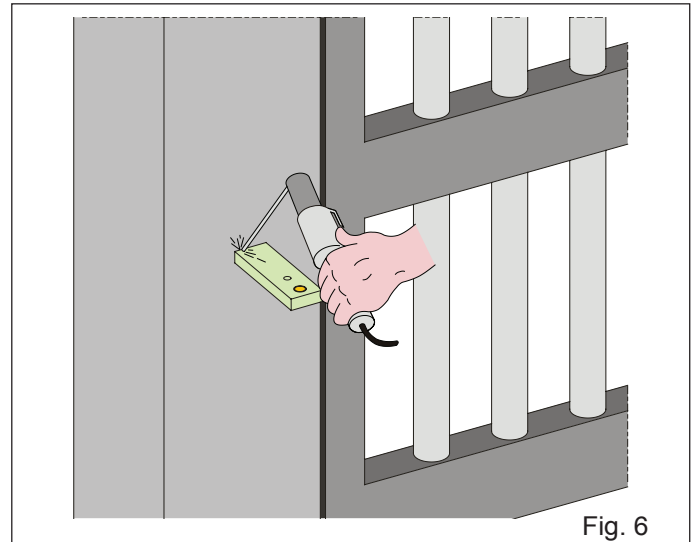

Fig. 6
- For iron pillars, carefully weld the bracket directly onto the pillar (Fig. 6).